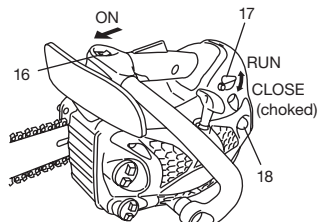

Fig. 10
## Starting (Fig. 10, 11)
1. Set ignition switch (16) to ON position.
\*Push priming bulb (18) several times so that fuel flows through bulb into carburetor. (If so equipped) (Fig. 10)
2. Push the choke lever (17) down to choked position. This will automatically lock the throttle in starting position. (Fig. 10)
3. Pull recoil starter briskly, taking care to keep the handle in your grasp and not allowing it to snap back. (Fig. 10)
4. When you hear the engine want to start, with the safety trigger (19) pressed pull throttle trigger (20). This will release the throttle from starting position to run position and will automatically return the choke lever to run position. (Fig. 10, 11)